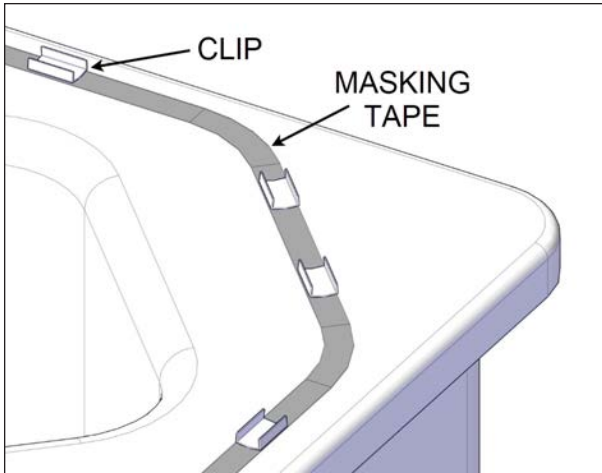
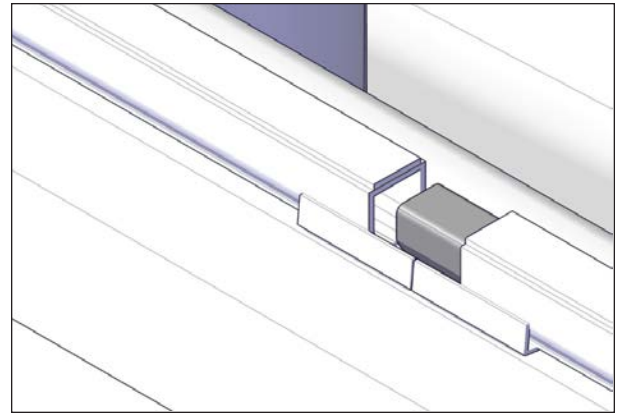
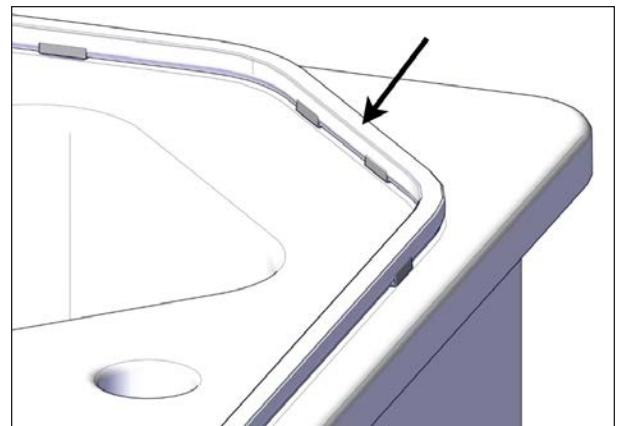

FIGURE 59: MASKING TAPE AND CLIPS
FIGURE 60: SEAL JOINT CONNECTOR
FIGURE 61: SEAL INSTALLATION
4. Apply the masking tape on the perimeter of the spa where the seal will be installed. The ideal location for the seal is closer to the swim spa interior edge on a flat surface, see Figure 59.
5. The number of seal clips is limited. Temporarily install the clips all around the spa to ensure the best distribution (do not stick yet). The minimum turn radius for the seal is 4" (10 cm), see Figure 59. Keep two clips for the seal joint connector as shown in Figure 60. Once the distribution is done, stick the clips in place (on the tape if applied).
6. The seal joint starts on the opposite side from the spa entrance. Install two clips where the seal joint connector will be located, see Figure 60.
7. Start installing the seal joint with the adhesive layer facing up towards the cover, see Figure 60 and Figure 61.
9. Insert the supplied seal connector in both ends of the seal. The use of masking tape to hold the two ends is recommended, see Figure 60.